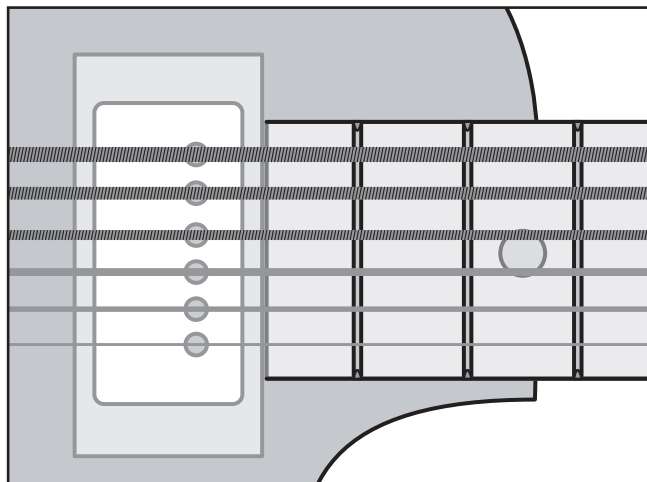

Figure 28. Pickup placement.
1. Align the pickups so the outside pickup screws are directly under the 1st and 6th strings, as shown in **Figure 28**, and tape the pickups in place.